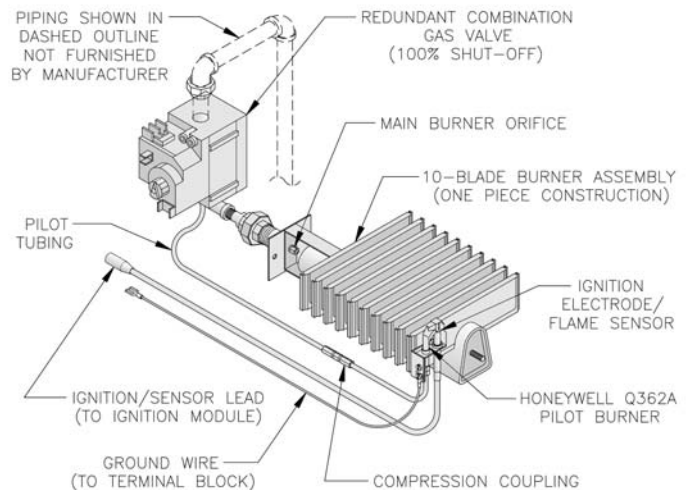

Figure 10
- e. PURGE AIR FROM GAS PIPING. During the purge adequate ventilation must be provided and no smoking or open flame permitted. (See Figure 10)